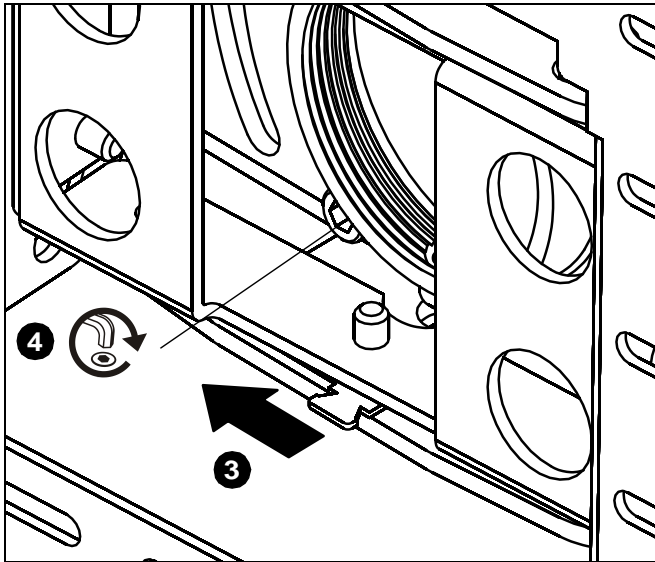

Figure 5
3. Return security tab to left side (See Figure 5).
4. Replace and tighten security screw (See Figure 5).